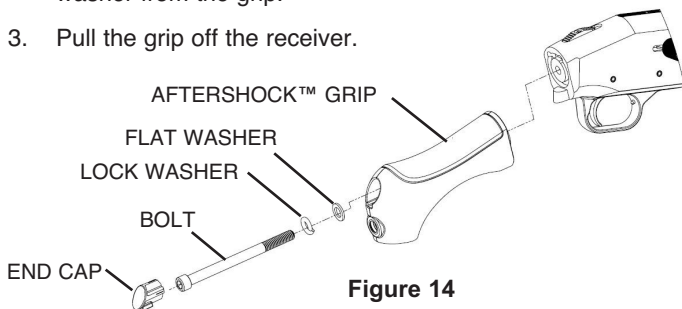

Figure 14
1. Using a flat head screwdriver, remove the end cap from the rear of the grip as seen in Figure 14.